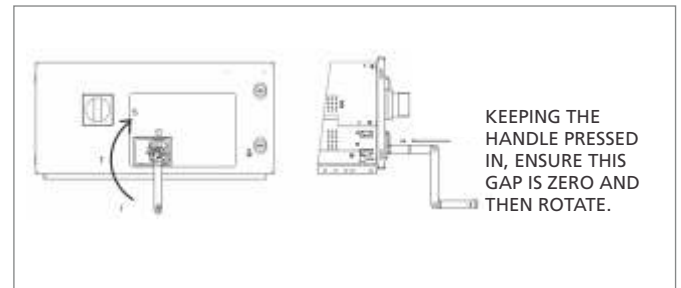

Figure 57 - Position for handle insertion
- Rotate the handle through 90 degree in clockwise direction to bring it to Isolated position Figure 57.